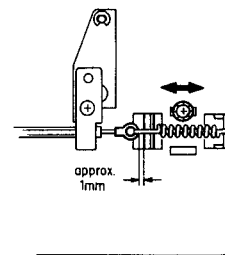

Fig. 4.18
- (3) Set the LX-3 in Record and Pause mode. Check to insure that the gap between the top of the wire and the Record Spring Holder is approx. 1 mm as shown in Fig. 4.18. (Check that the Record Switch is in record position.)
- (4) Upon completion of the above adjustments, apply a quantity of lock tight paint.